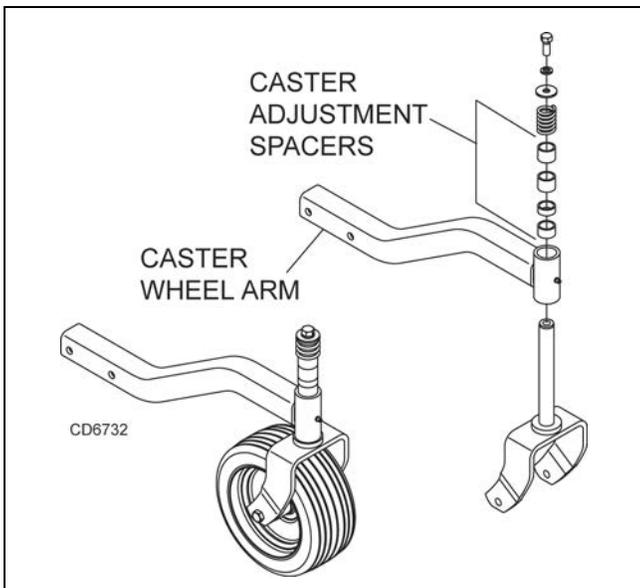

Figure 5. Height Adjustment with Caster Arm Spacers
8. To raise rear of mower, move caster adjustment spacers under rear caster arms. (See Figure 5.)
9. To raise front of mower, move spacers under front caster wheel arms. (See Figure 5.)